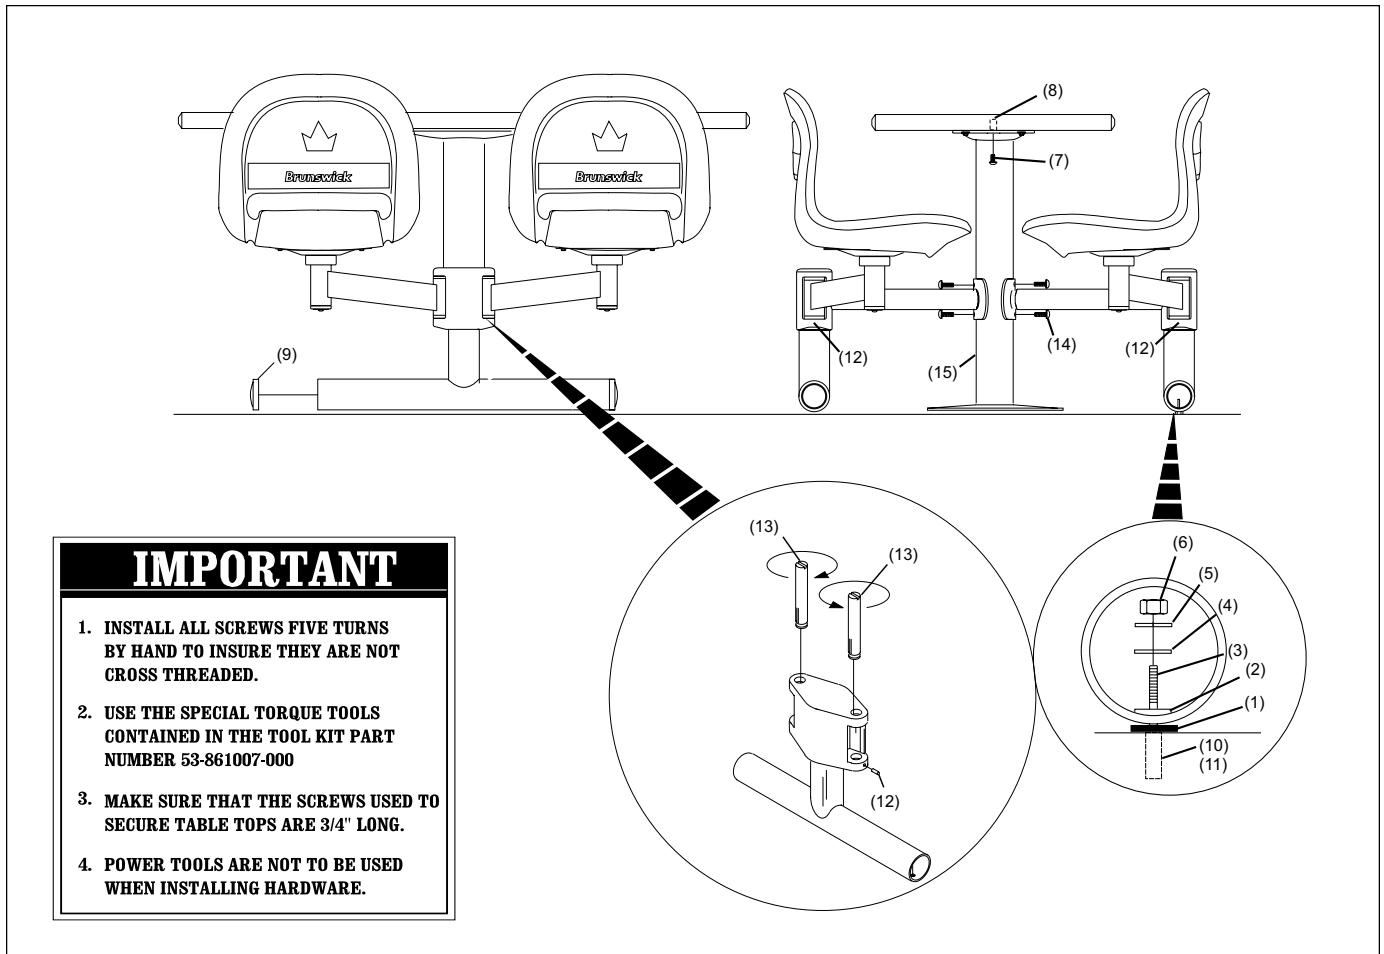

Figure 28. Secure Table Tops to Table Mounting Plates
9. Install the tube caps in the four open ends of the tubes. *Figure 28.*
1. Align the threaded inserts in the table top with the mounting holes in the table mounting plate. Secure the table top to the two table mounting plates with four 3/8-16 x 3/4" button head cap screws. Refer to Figure 28.
8. Install the tube caps in the four open ends of the tubes, *Figure 28*.
9. Swing arm spring tension adjustment: *Figure 28*.
10. Swing arm spring tension adjustment: *Figure 28*.
- a. Loosen set screw (12). This will release the existing tension on the torsion spring that rotates the swing arm to the home position.
- b. Using a wide blade screw driver in the slot of a spring shaft (13), rotate it in the required direction as shown by the arrows in *Figure 28*.